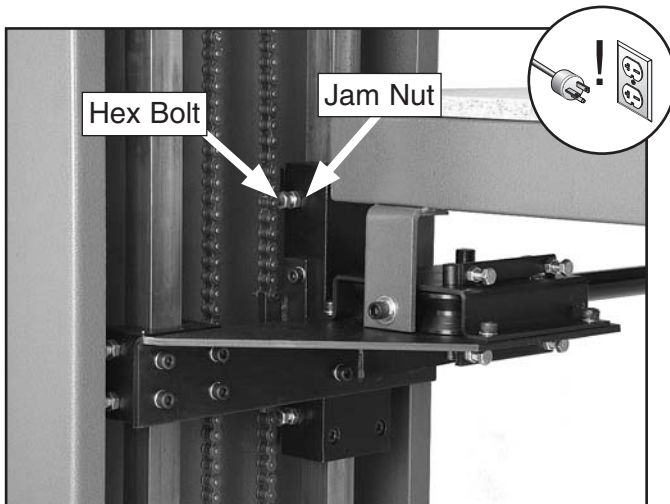

Figure 50. Wear pin adjustment.
2. Loosen the jam nut shown in (Figure 50).